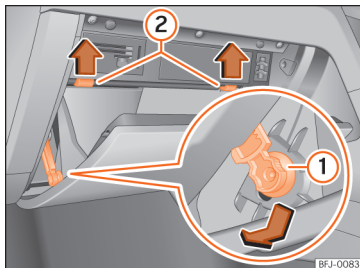

Fig. 103 Glove compartment (right guide): Access to the fuse box.
- Move the braking element »» Fig. 103 ① into the support hole facing downwards and remove it to one side.
- Press the end axes »» Fig. 103 ② upwards, in the direction of the arrows, and at the same time open the glove compartment even more.
»» Fig. 103 ②.
① CAUTION